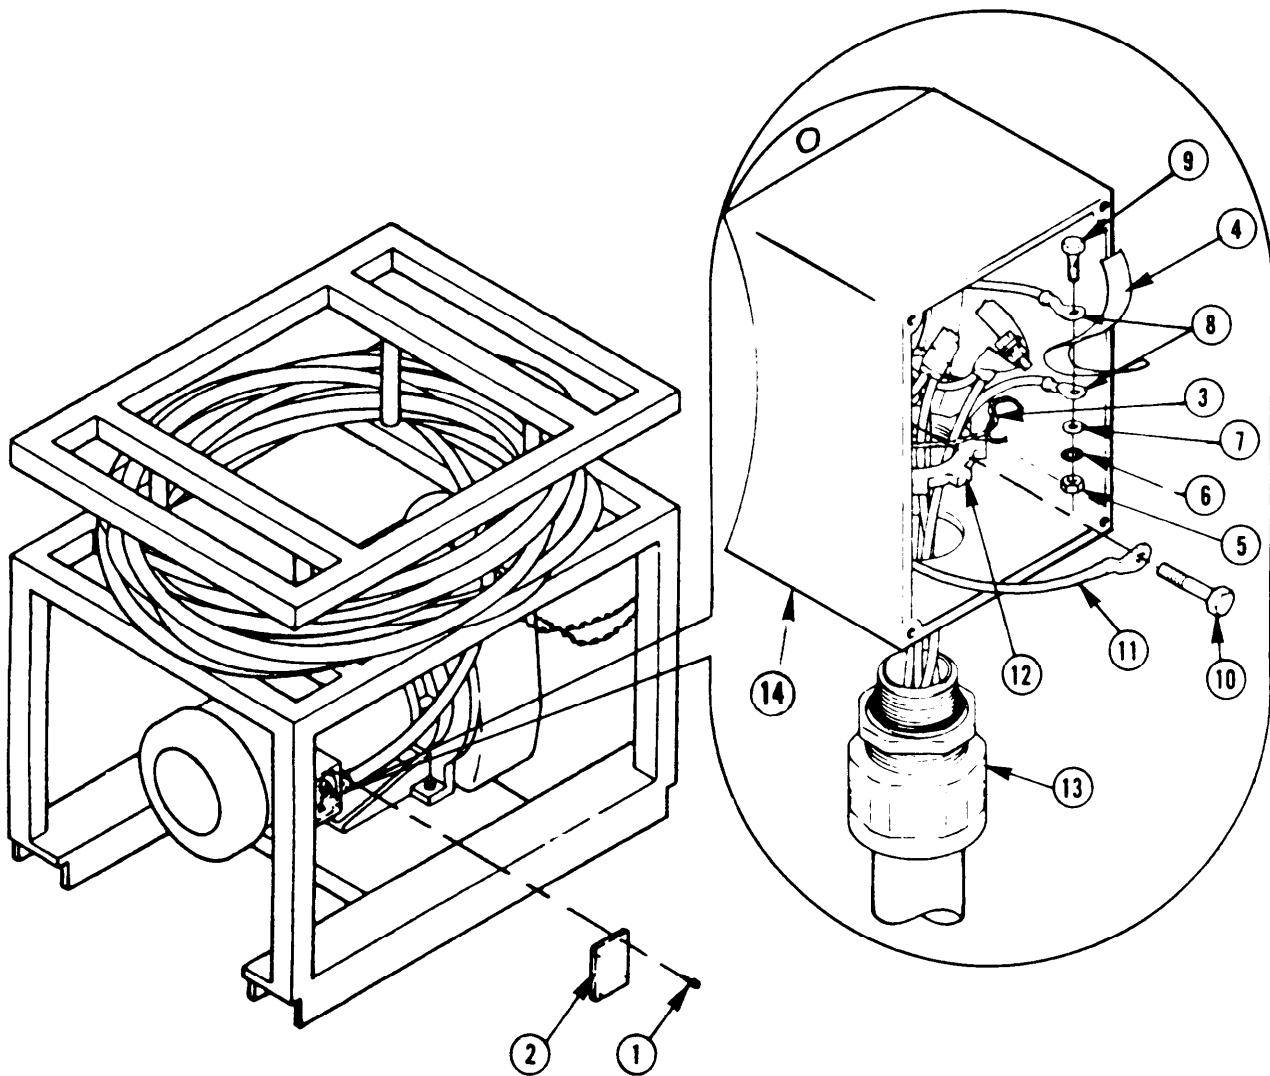
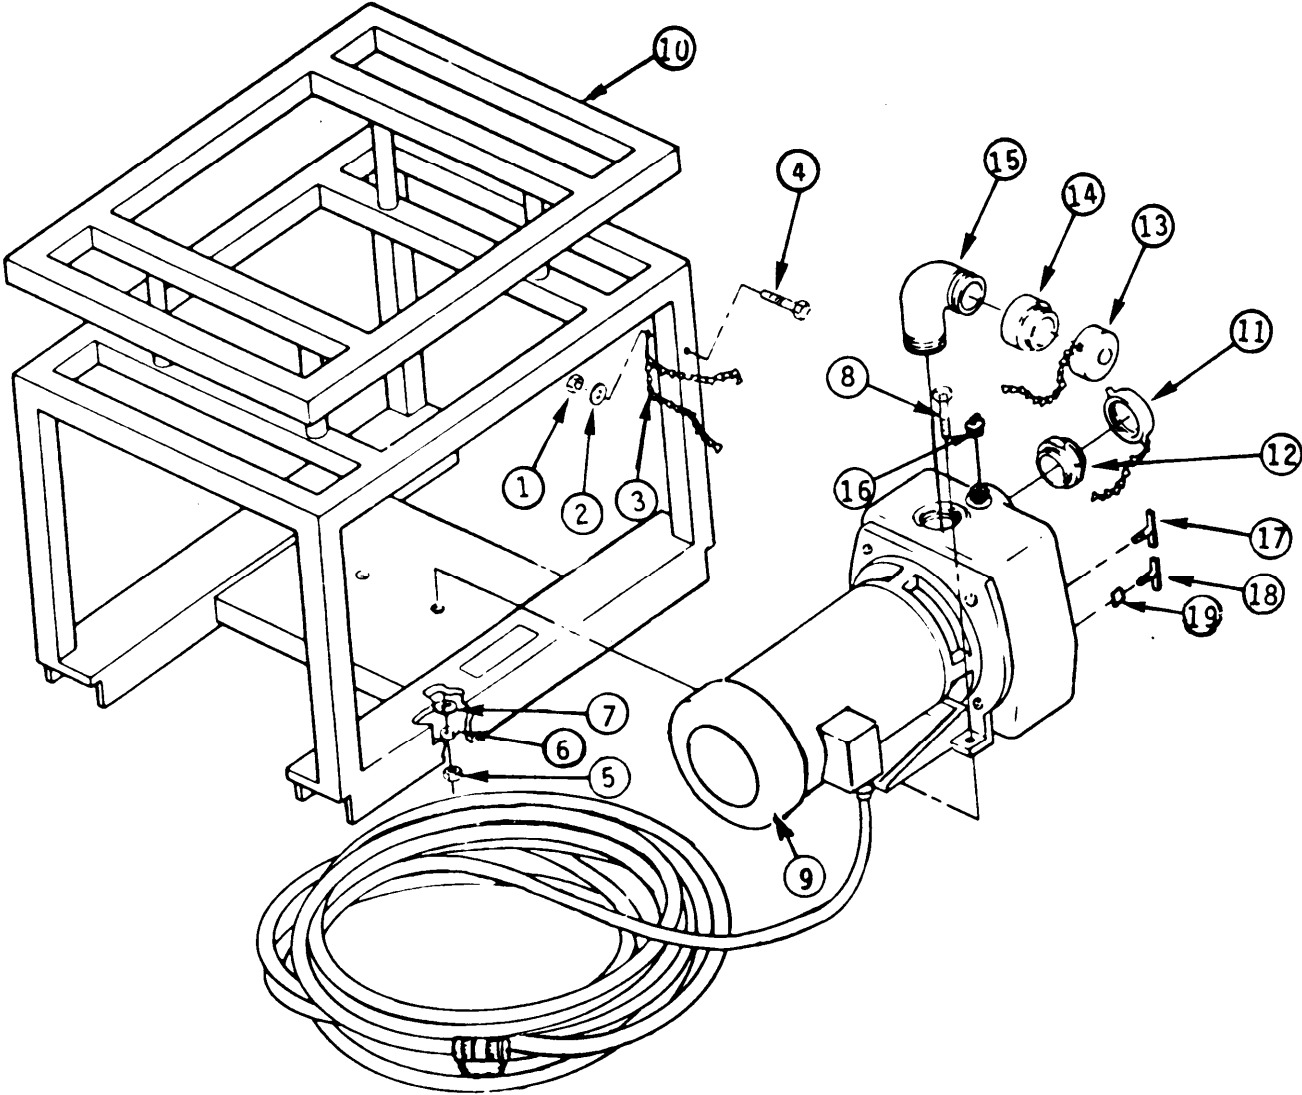

Figure 2-44. Raw Water Pump Power Cable
Figure 2-45. Raw Water Pump Assembly
b. Power Cable Assembly Removal, (Figure 2-44)
- (1) Remove two screws (1) from conduit box (14) and conduit box cover (2).
- (2) Remove conduit box cover (2) from conduit box (14).
- (3) Pull wires out far enough to expose taped ends.
- (4) Cut twine (3) that holds bundles together.
- (5) Remove tape (4) from ends of each set of wires.
- (11) Remove remainder of cable grip (13) and cable assembly from conduit box (14).
c. Raw Water Pump Removal from Frame. (Figure 2-45)
- (1) If motor is to be replaced, perform step (b), this paragraph. If not, unwrap power cable and move bulk of power cable out of the way for this operation.
- (2) Remove self-locking nut (1), flat washer (2), and two cap chains (3) from screw (4).
- (3) Remove screws (4) from frame (10).
- (1) Replace all damaged or worn electrical cables.
- (2) Motor fan cover may have dents removed to prevent interference with fan. If damage is severe or large cracks are present, replace cover.
- (3) Pump frame may be rewelded and frame members straightened or replaced.
- (4) Replace all damaged screws, nuts, bolts, and washers
- (5) Replace all damaged pipe and pipe fittings.
- (6) Replace all gaskets and O-rings.
- (7) Replace all broken, damaged, or broken port cap retainer chains and port caps.
- (8) Replace damaged unrepairable pump motor fan cover.
- (9) Replace damaged or unserviceable raw water pump.
g. Pump Installation. (Figure 2-45)
- (1) Install reducer (19) in pump (9).
- (2) Install two petcocks (17) and (18) in pump (9).
- (3) Install priming plug (16) in pump (9).
- (4) Install elbow (15) in pump (9).
- (5) Install adapter (14) in elbow (15).
- (6) Install hose cap (13) in adapter (14).
- (7) Install adapter (12) in pump (9).
- (8) Install hose cap (11) in adapter (12).
- (9) Place pump (9) in frame (10) and align mounting holes.